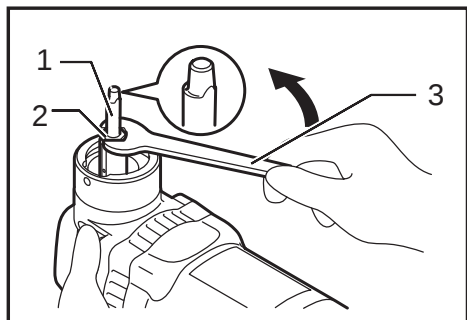

Fig.4
► **Fig.4:** 1. Punch 2. Screw 3. Wrench